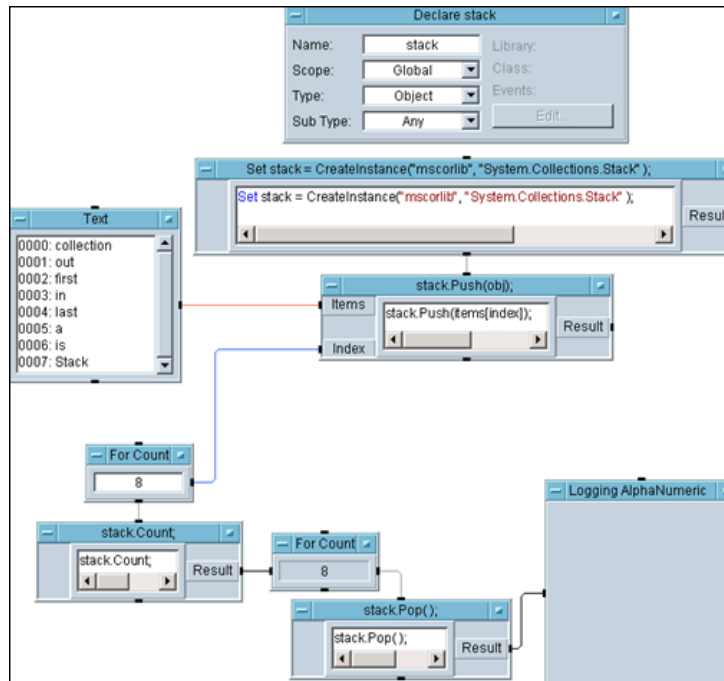

Figure 4-11 Modified Stack Example before running
- 2 Open all icons, arrange the objects, and change the Text object information as shown in Figure 4-11.